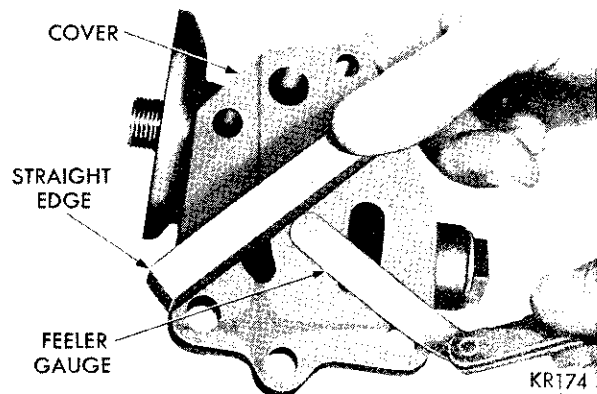

Fig. 52—Measuring Oil Pump Cover Flatness
- (1) Clean all parts thoroughly. The mating face of filter base (oil pump cover) should be smooth. Replace filter base if it is scratched or grooved.
- (2) Lay a straightedge across oil pump filter base surface (Fig. 52). If a .0015 inch feeler gauge can be